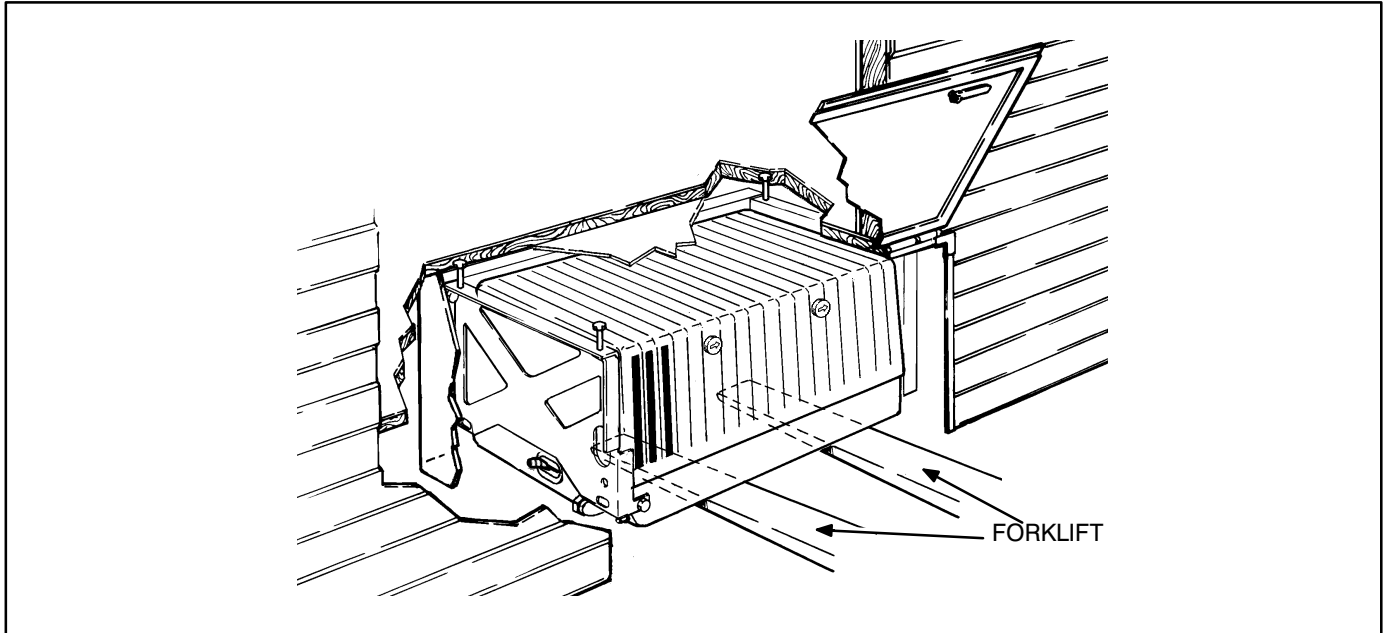

FIGURE 5-3. COMPLETE GENSET REMOVAL (SPEC A SHOWN)
1. Use a forklift to support the genset at the points shown in Figure 5-3.